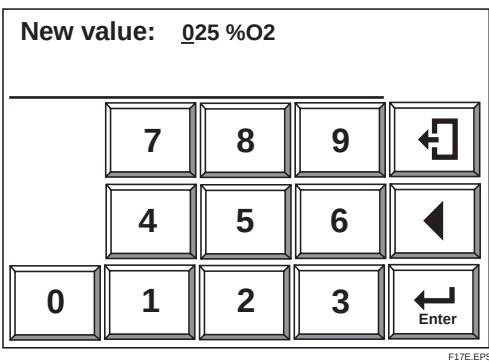

Fig. 8.2 Numerical entry
- 5) The numeric data entry display shown in Fig. 8.2 appears; enter the desired oxygen concentration setting. To set 10% O₂, input [010] and touch Enter.